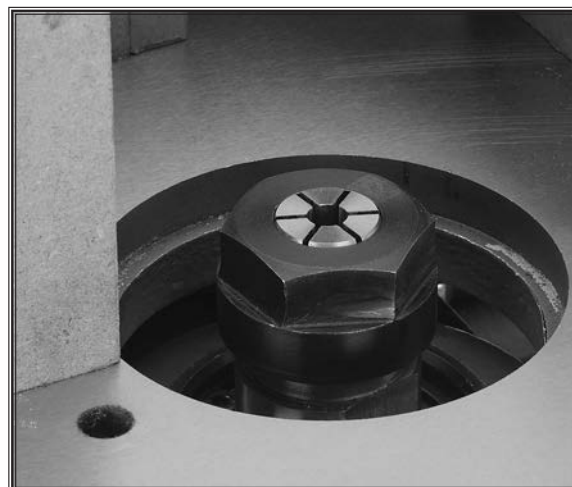

Figure 29. Installed collet flush with top of collet nut.
3. Place the collet nut and collet into the spindle. See **Figure 29**.